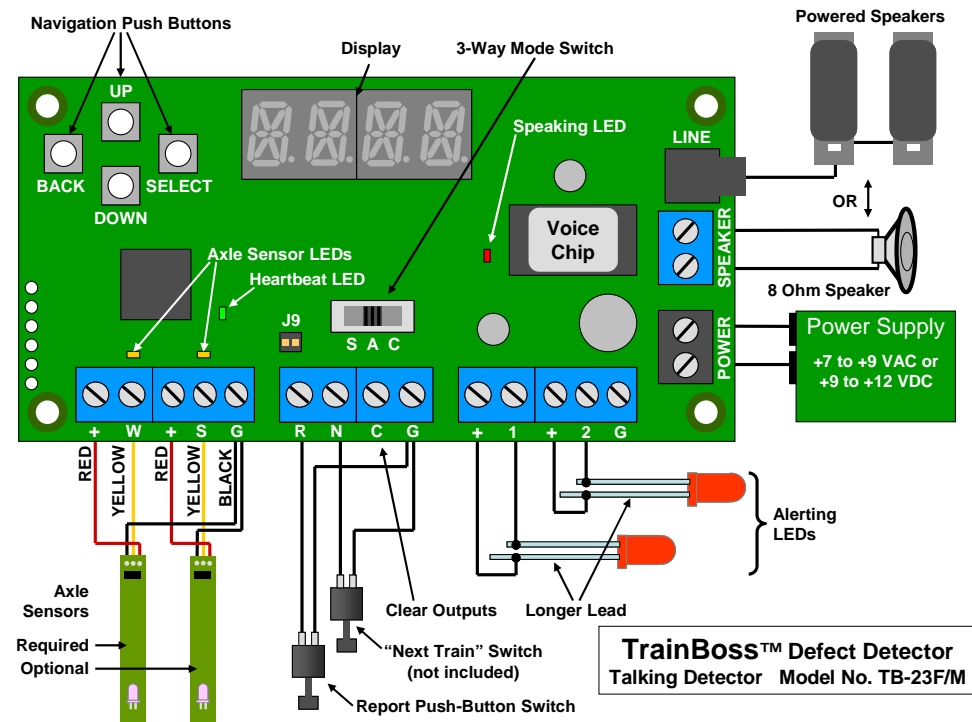

Figure 5: Circuit Board & Wiring Diagram
Male or female voice is set by the voice chip on your **TrainBoss™ Defect Detector** Circuit Board – see **Figure 5**. Voice chips labeled with M are male; chips labeled with F are female. Voice chips are available on our website (www.bouldercreekengineering.com) if you want to change voices.
Figure 5 shows how to wire your **TrainBoss™ Defect Detector** for voice reporting, along with key features on the circuit board.
1. Connect two wires from your power supply to the Defect Detector power **gray** terminals as shown in **Figure 5**. Polarity does not matter. The power supply must be 7 to 9 Volts AC or 9 to 12 Volts DC, with 250 mA capacity. Radio Shack sells an AC adapter (#273-314) that works well.
2. Connect the RED, BLACK and YELLOW wires from the Axle Sensors as shown in **Figure 5**.
4. You can wire Alerting LEDs to the LED Outputs as in **Figure 5**. LEDs are polarity sensitive – connect the long and short leads as shown. Visit
5. A **Report** Switch triggers or repeats a defect report. Connect the push button **Report** Switch (included) as shown in **Figure 5**. Connect extra **Report** switches (n. o. type) between **R** and **G** if desired.
6. The **Next Train** Switch forces a defect report on the next train when pressed, which is nice for testing. If desired, connect a push button **Next Train** Switch (n. o. type – not included) as shown in **Figure 5**.
The 3-way Mode Switch positions are labeled S, A, and C. See **Figure 5**. Changing the switch position immediately puts the Defect Detector into a new mode:
1. Use the Navigation pushbuttons (UP, DOWN, SELECT, BACK – see **Figure 5**) and the Display to move among SVs. A light touch is best.